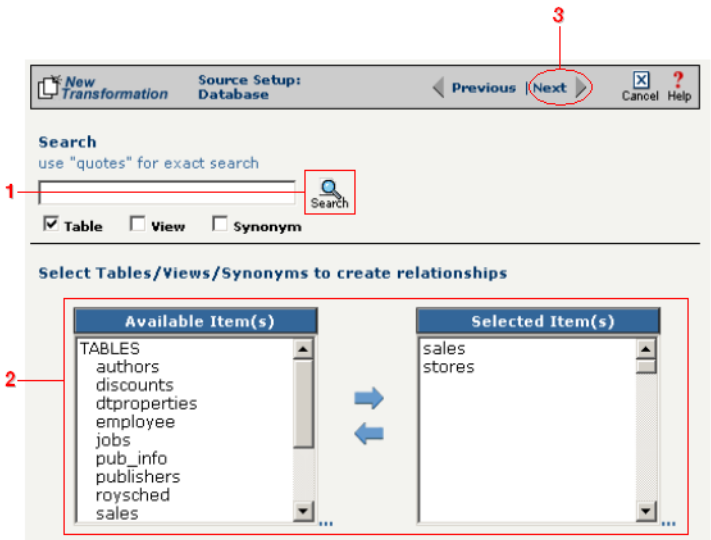

Figure 3-11. Select the database table(s) you will use to access your source data.
- ❶ We want to see all the tables in this database, so leave the **Search** field empty and press the **Search** button (making sure that the **Table** checkbox is selected).
- ❷ Select **Sales** and **Stores** in the **Available Tables** list, then click the **Add** button (the right-facing arrow) to move them to the **Selected Tables** window.
- ❸ Compare your work with Figure 3-11 below, then click **Next** to continue.